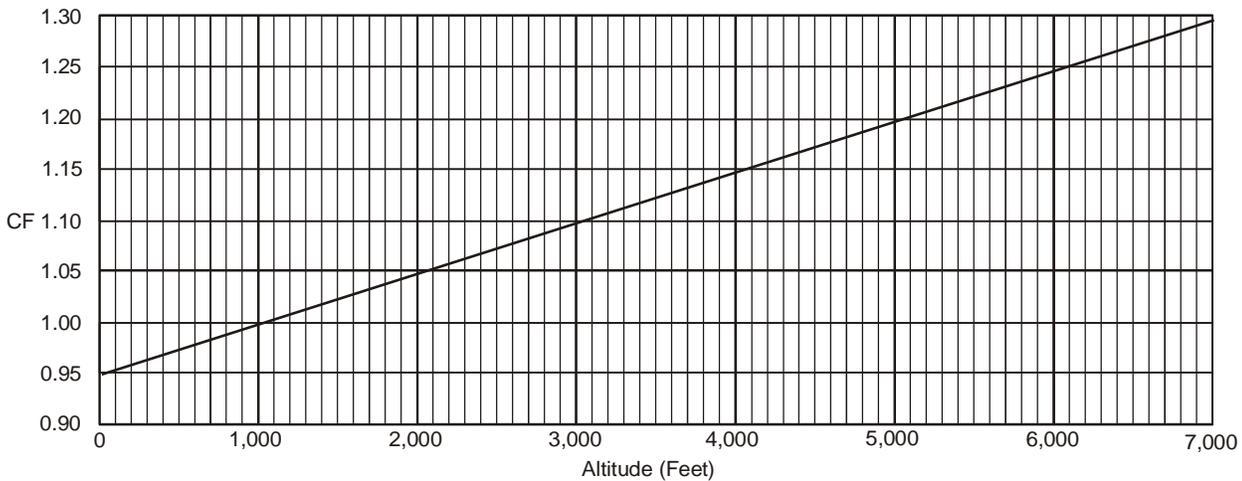
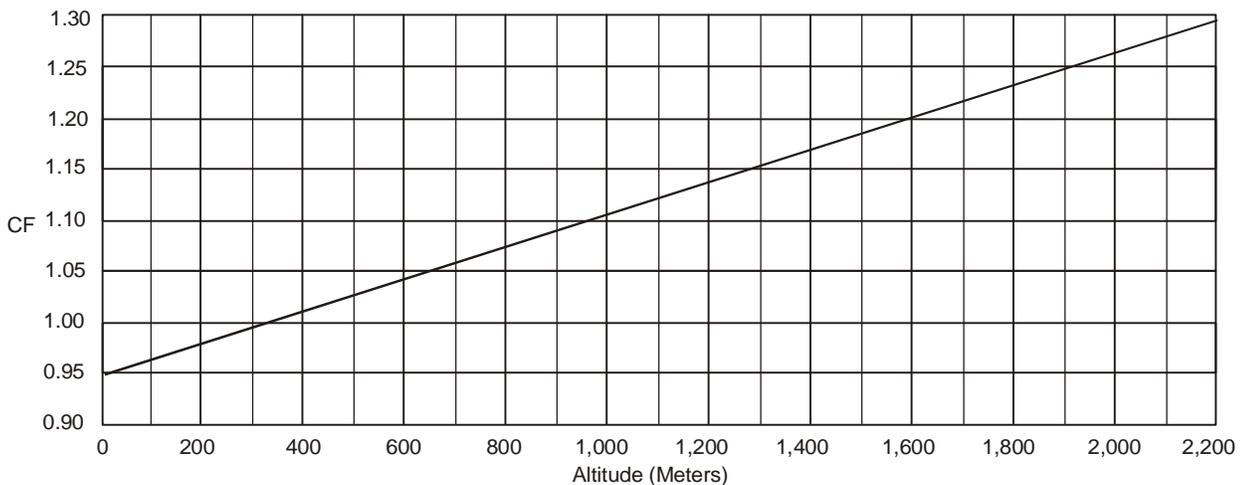

Figure 7: Altitude Compensation in Feet above Sea Level
Figure 8: Altitude Compensation in Meters above Sea Level
To do this, reset the 2,000 ppm value using the controller's Compensation Factor (CF) shown in Figure 7 or Figure 8.
For example, if the sensor is situated at an altitude of 3,000 ft (914.4 m) above sea level, the CF is 1.10 (see Figure 7 or Figure 8). The new value is calculated as follows: